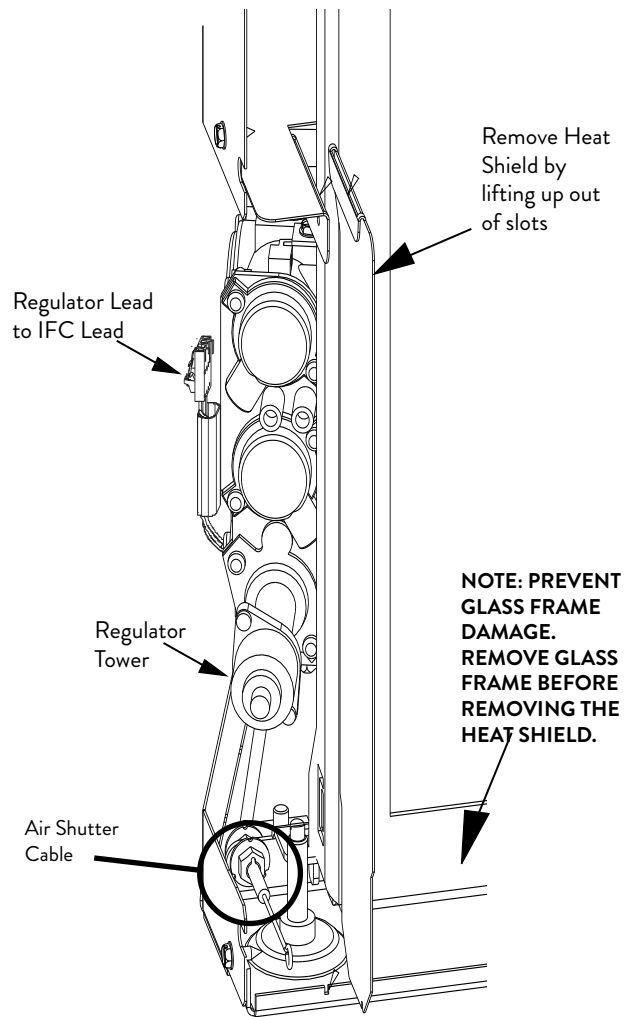

Figure 17. Replace the Regulator Tower.
7. **CHANGE THE VARIABLE REGULATOR TOWER** on the gas control valve. See fig. 17.
- Push/Pull each side air shutter cable to confirm that both shutters move freely through the full range of travel. See figs. 17, and 68, pg. 33.